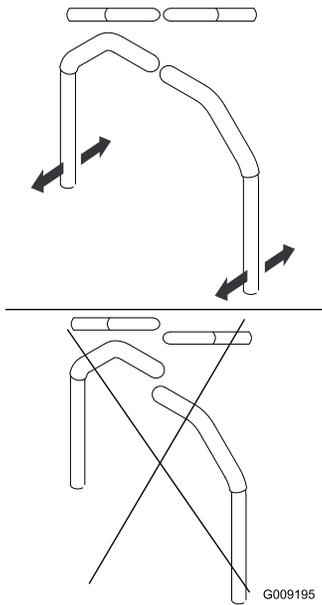

Figure 90
4. Align the levers in the front-to-rear position by bringing the levers together to the NEUTRAL position, and slide them until they are aligned, then tighten the bolts (Figure 90).